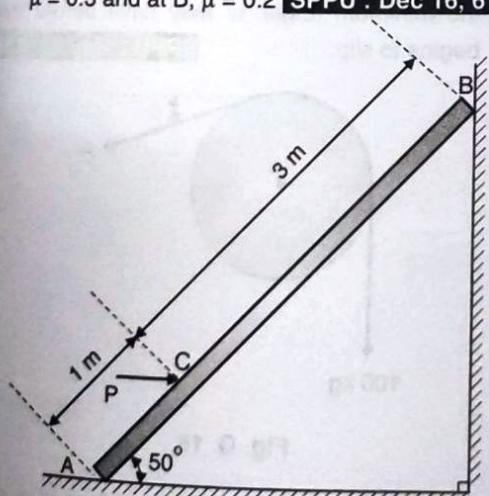

Fig. Q. 10
- Q. 10** A ladder AB weighing 196 N is resting against a rough wall and a rough floor as shown in Fig. Q. 10. Calculate the minimum horizontal force P required to be applied at C in order to push the ladder towards the wall. Assume coefficient of friction at A $\mu = 0.3$ and at B, $\mu = 0.2$ **SPPU : Dec 16, 6 Marks**